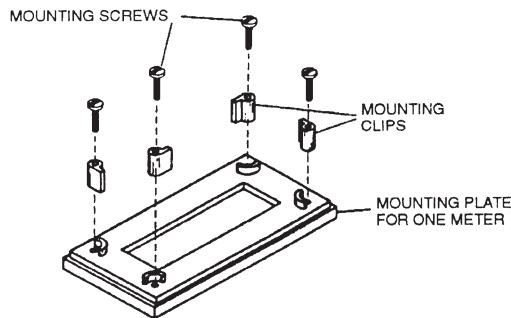

Figure 1a. Adaptor Assembly for 1/8 DIN Panel Cutout (DP116 -PB1 for one meter)
2. Place a mounting clip on the plate over one of the holes so that the clip is oriented as a letter "d" (not a "b") and loosely fasten with the screw provided. Repeat for the other 3 clips. Refer to Figure 1a or 1b.
10. Rotate the four mounting clips on the adapter plate into the fully counter-clockwise position, as shown in Figure 1a or 1b. Tighten the screws but do not over-tighten (tighten especially the bottom two so they do not rotate). With the 4 mounting clips in this position, the meter/adapter assembly can easily be inserted into the 1/8 DIN or 1/4 DIN cutout in the panel.